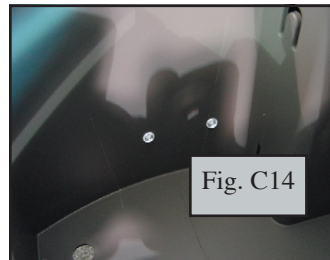

Fig. C14
9. Insert lens from inside of storage box. (Fig. C14)